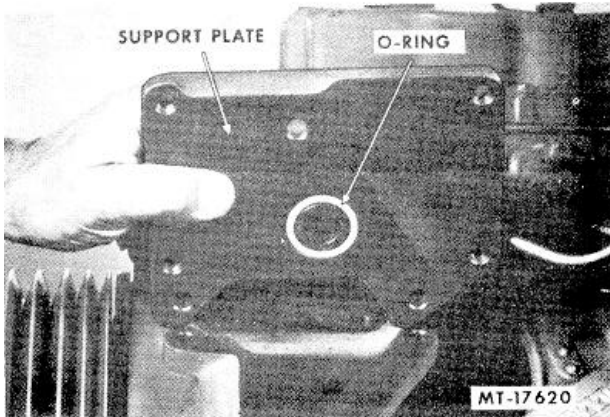

Fig. 20
18. Remove the air compressor support plate with "O" ring (Fig. 20).